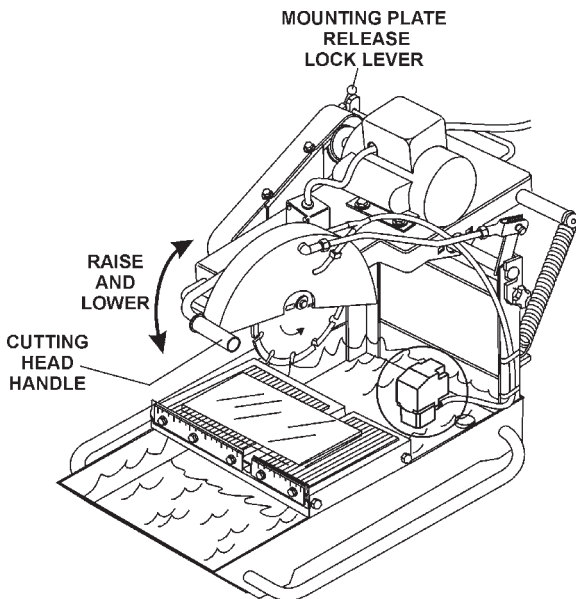

Figure 21. Cutting Head Handle
- Adjust the cutting depth by pulling up or down on the **Cutting Head Handle** (Figure 21). This saw is designed, and is best utilized as a "**Chop-Saw**". Once the mounting plate release/lock lever is released, the optimum cutting action is attained by using the **Raise/Lower Handle** to rotate down onto the material to be cut. Simultaneously the conveyor **cart is moved slowly forward** to advance the material and cutting action.